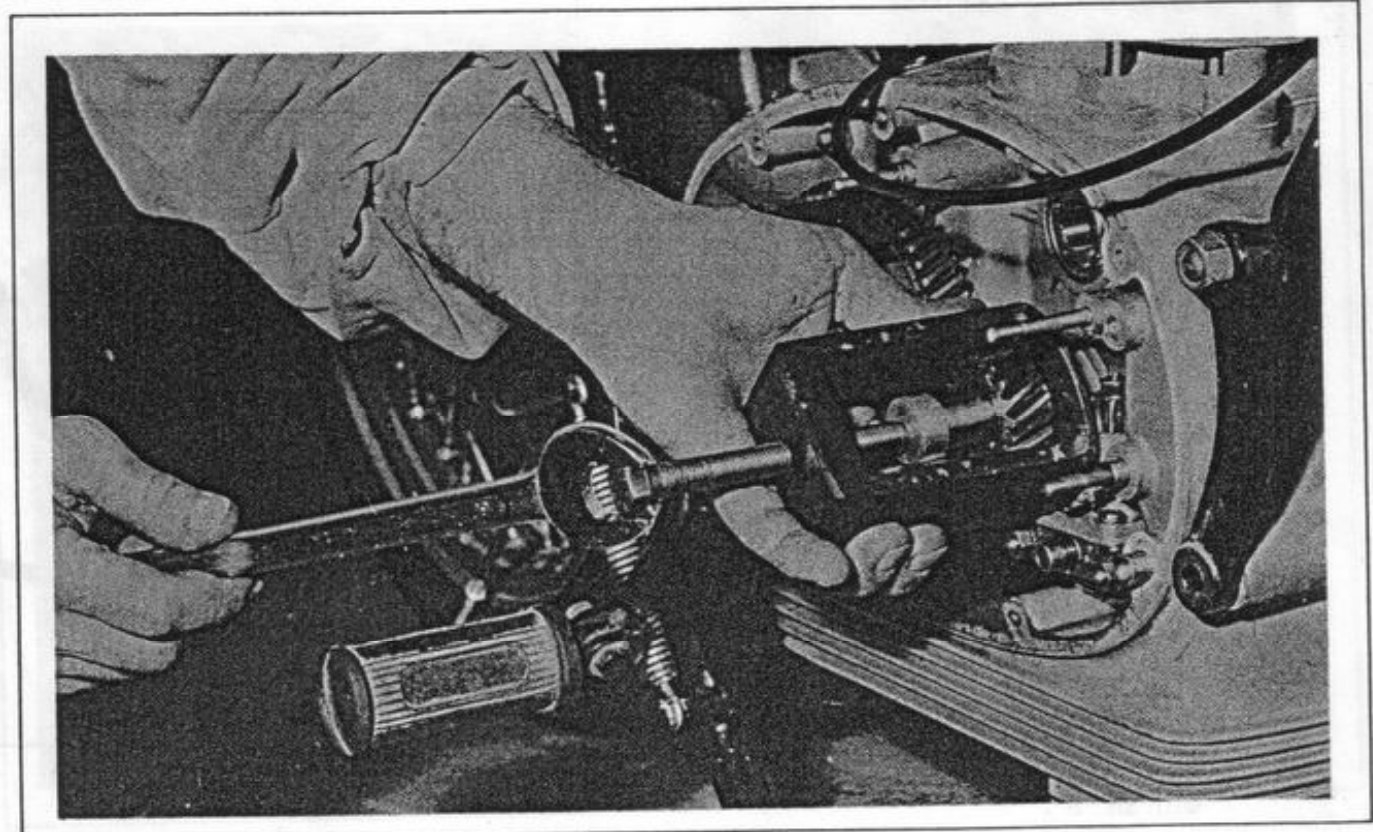

Figure 26.
b. Use puller QQ, with a soft-metal spacer between the end of the crankshaft and the puller bolt, to pull off the pinion gear (Figure 26).